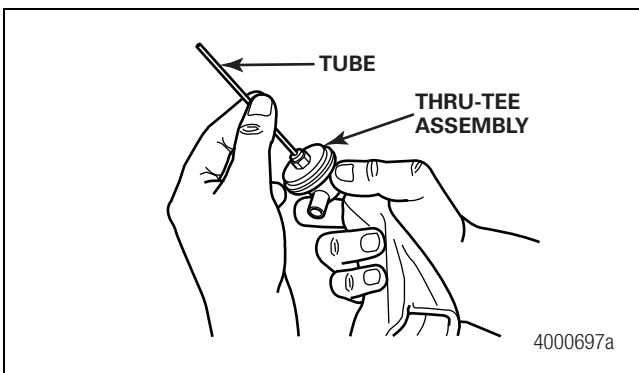

Figure 2.46
- Use your fingers to check that there is no debris on the tube. Figure 2.46.